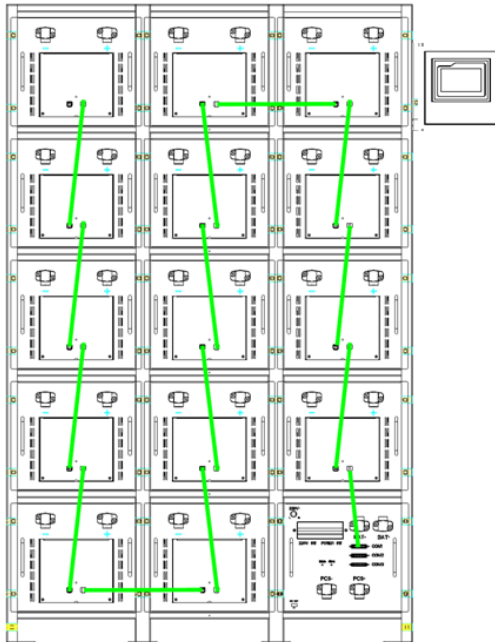

Figure 6-6 Battery cluster communication cable wiring diagram (picture is for reference only)
2) .According to the wiring position shown in Figure 6-6, each cluster is connected to the battery module communication line in the S-shape from the lower right corner.